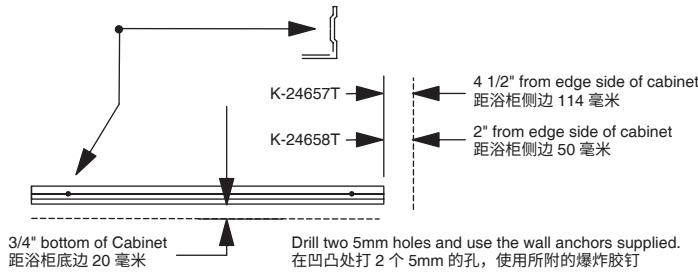
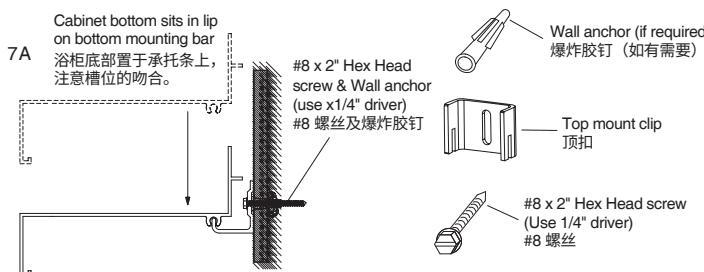

Fig. 3 图 3
Fig. 5 图 5
Refer to Fig. 3 for single-door installation.
单门浴室柜承托条安装参见图 3
**Notes:** Drill 1/4 hole in wall for mounting bar anchors at locations shown in Fig. 3. (If you do not use the anchor, drill a 3/32 pilot hole.) After the holes are drilled, fit the mounting bar onto the wall, refer to Fig. 3 for measurements, and Fig. 5 for information on anchor cinching.
**注意事项：**如图 3 承托条所示位置在墙壁上钻 7 毫米的孔再上爆炸胶钉（如果您不用爆炸胶钉，钻 2 毫米大小的孔。）钻好孔后，参照图 3 的尺寸装好浴柜承托条，并按图 5 旋紧螺丝。